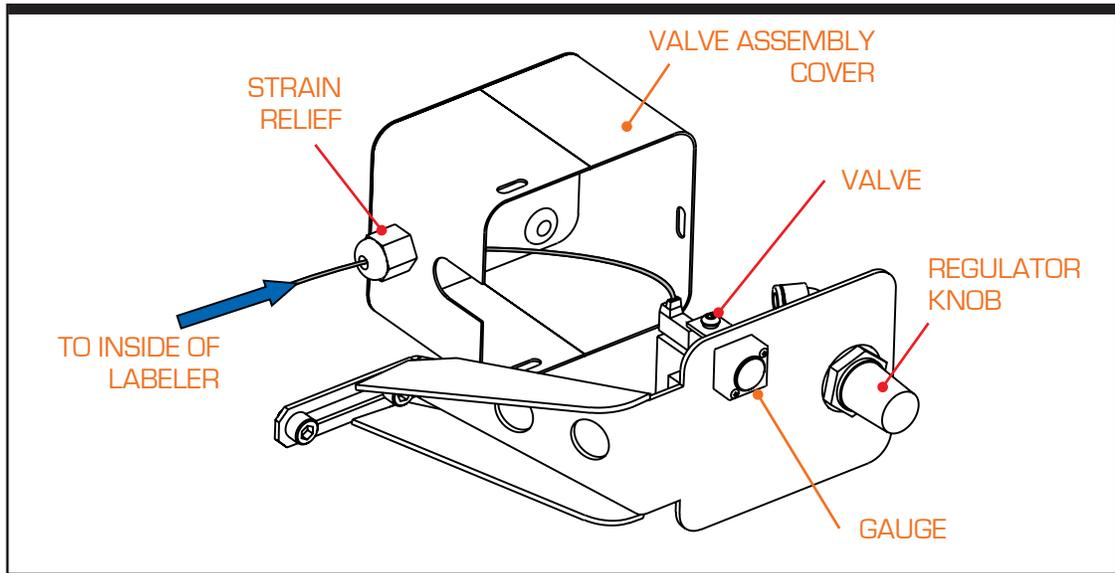

Figure 5-11. Valve Assembly Housing
- Step 7. Other Connections.** Remove the cover from the blow box valve housing (refer to Figure 5-11). Disconnect the Tamp Valve Connector found inside the labeler. This is the quick connect plug attached to the tamp valve (upper most valve) on the pneumatic valve pack. Route this connector through the opening in the front of the case (same opening as airlines are routed through), there is excess wire supplied for routing to the required location. At this point wrap the wire with the supplied spiral wrap and route through the strain relief on the blow box valve housing (refer to Figure 5-11). Plug the connector into the supplied valve as shown and tighten the strain relief. Confirm all connections are routed properly and tighten. Install cover.